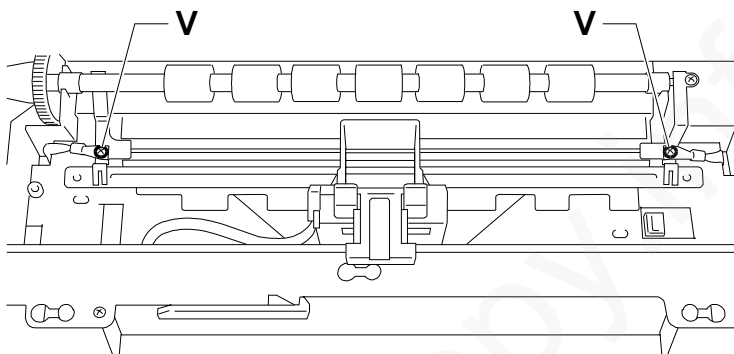

Fig. 7-49
- 2) Unscrew the two screws **V**, then remove the unit by pushing it downward (Fig. 7-49):